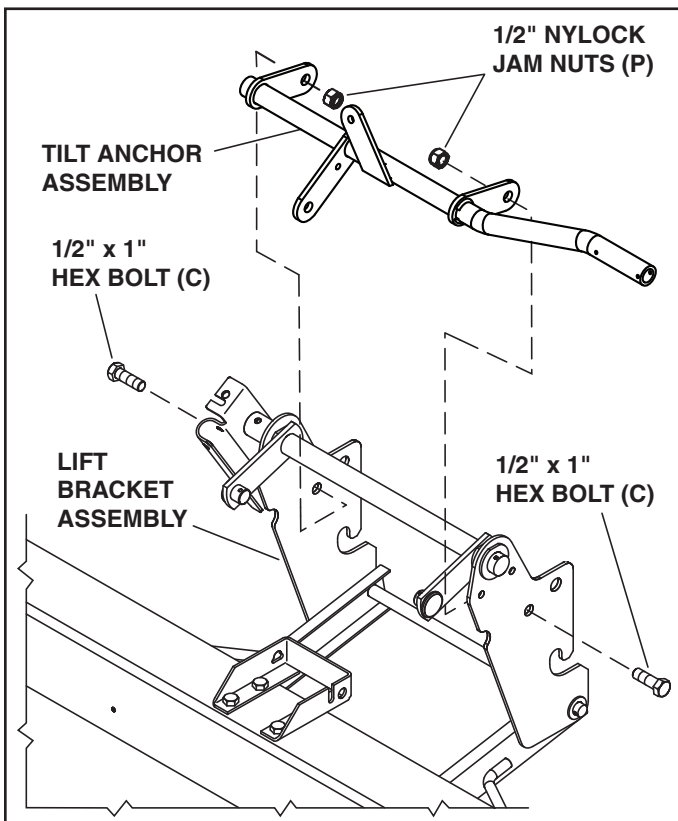

FIGURE 4
STEP 5: INSTALL TILT ANCHOR ASSEMBLY (SEE FIGURE 4)
- Assemble the tilt anchor assembly to the lift bracket assembly using two 1/2" x 1" hex bolts (C) and 1/2" nylock jam nuts (P). **Tighten.**